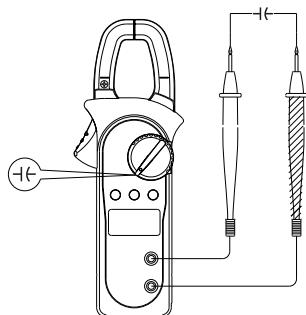

Figure 8
6. Capacitance measurement (↔) (shown in Figure 8)